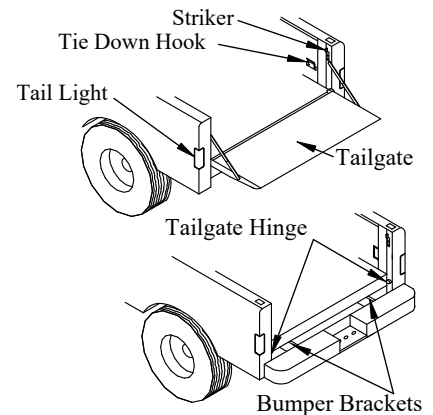

Figure 5: Remove Hardware.
1. **Remove** the tailgate (Figure 5).